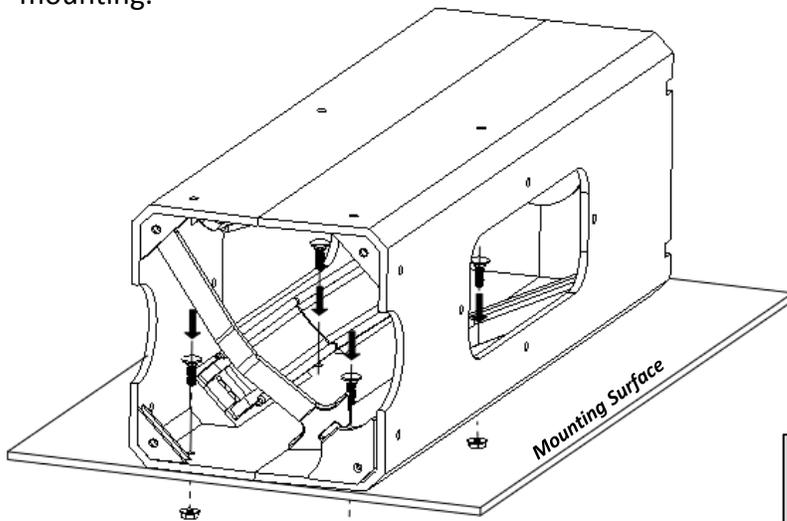

FIGURE 1A
Position Cylinder Mate in desired location with the non-windowed side on the primary mounting surface. (see **Figure 1A**) Using the included hardware, attach the cylinder mate with (4) Carriage Bolts P/N 2037 and (4) Nuts P/N 2042 to the mounting surface. Installer to locate and drill (17/64) holes for mounting.